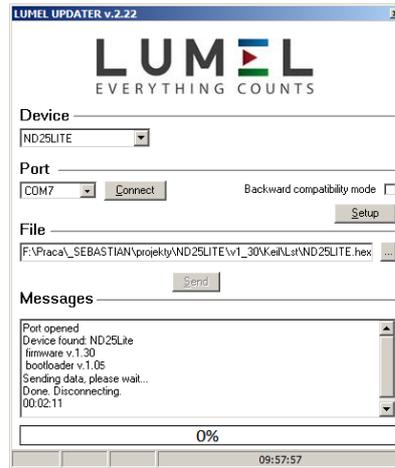

Fig. 13. Software upgrade window
After launching the eCon program, select the "Update Firmware" option (in the upper right corner of the screen), the Lumel Updater (LU) window will open – Fig. 13. Set the same transmission parameters (address, mode, speed) as those set in the device, select the firmware file, and press Connect. The "Messages" information window displays information about the update process. If the port is properly opened, the message "Port opened" will be displayed. The meter can be entered into update mode in two ways: remotely via LU (based on the settings in eCon – address, mode, speed, COM port) and by